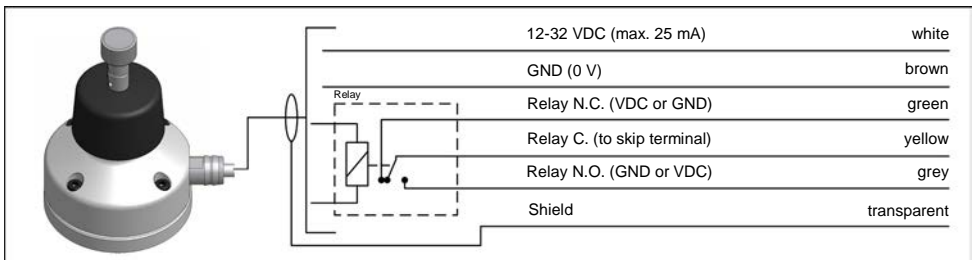

Fig. 8 Electrical Connection
To align the stylus, the measuring surface of the tool setter is touched (manually) by a dial gauge which is installed in the spindle and afterwards the measuring surface is sensed along the X- and Y-axes. The deviation measured with this procedure must be $< 5 \mu\text{m}$ (refer to Fig. 8). If the measured value for the deviation exceeds this limit the stylus must be aligned as follows.
- Using the hexagon key AF2.5 turn the adjustment screws clockwise to lower the tool setter at the appropriate point and to correct the inclination (refer to Fig. 8).